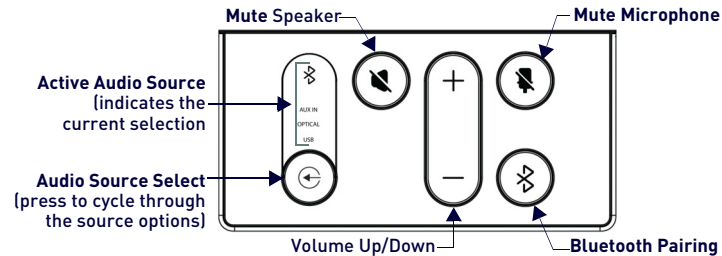

FIG. 8 ACV-2100 LEFT SIDE PANEL KEYPAD
All controls and LEDs are on the left side panel of the ACV-2100 (FIG. 8):
- Press and hold both the **Source Select** and **Bluetooth Pairing** buttons on the ACV-2100 (see FIG. 8). After 3-5 seconds the LEDs on the remote control should stop flashing to indicate the remote control has paired.
- Press the **Bluetooth Pairing** button on the ACV-2100 or the remote control to initiate pairing (see FIG. 8). The Bluetooth button will flash on both the ACV-2100 and the remote control.
In order for the *Acendo Vibe Configuration Tool* to communicate with the ACV-2100, the unit must be in Setup Mode. To place the ACV-2100 in Setup Mode, press the **Audio Source Select** and **Mic Mute** keys on the ACV-2100 (see FIG. 8) simultaneously for 3 seconds. All of the LEDs blink to indicate that the unit is in Setup Mode.